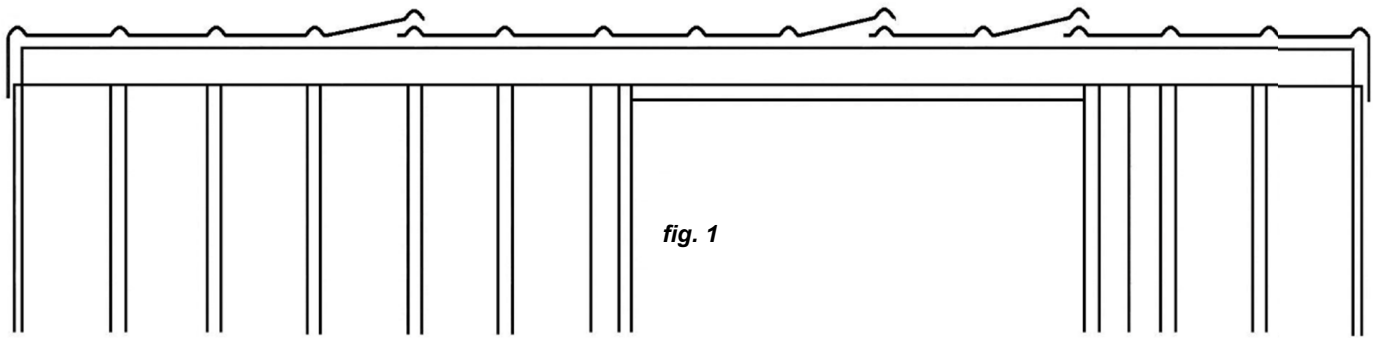

fig. 1
Step 1: Select one End Base Plate 1.690m (Green), one End Top Plate 1.690m (Red) and two Studs (Yellow). Lay out on flat surface and nail together using two 75mm nails per joint (**fig. 1**). Repeat with the other end frame.
Step 1: Door Jambs: Position left hand Door Jamb Flashing at correct measurement from left (**cladding detail**) and nail to Top Plate using a 30mm clout. Do not fit 50mm nails at this stage. Pre-drill holes to make nailing easier (**fig. 1**).
Step 5: Drill a hole through Door Jamb Flashings and Wall Sheets top and bottom. Nail with 50mm nails (**fig. 1**).
Nail left hand Door Jamb Flashing to Stud using three 30mm Clouts at equal spacings (**fig. 1**). Beside each 30mm Clout, rivet Door Jamb Flashing to Rib. Repeat with right hand Door Jamb Flashing.
Standard Roof: Position Roof Sheets as shown in **fig 1**. Make sure sheet joints at the back are flush. Rivet sheet joints, one rivet 200mm back from edge front and back. Fit two more rivets evenly spaced in centre of each joint.
Step 2a: Position Roof Sheets as shown in **fig.1**. When fitting Clear Panel ensure it OVERLAPS Roof Sheets. Rivet sheet joins, approx. 200mm and 600mm from each end-front and back.